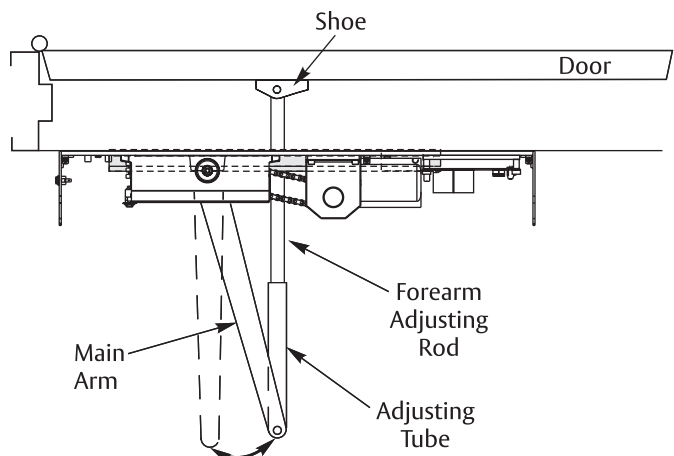

Figure 21 View from ceiling looking downward
2. Remove 1/4-20 hex head screw on forearm adjusting rod. (Figure 21)
3. Insert adjusting rod into adjusting tube. (Figure 21)